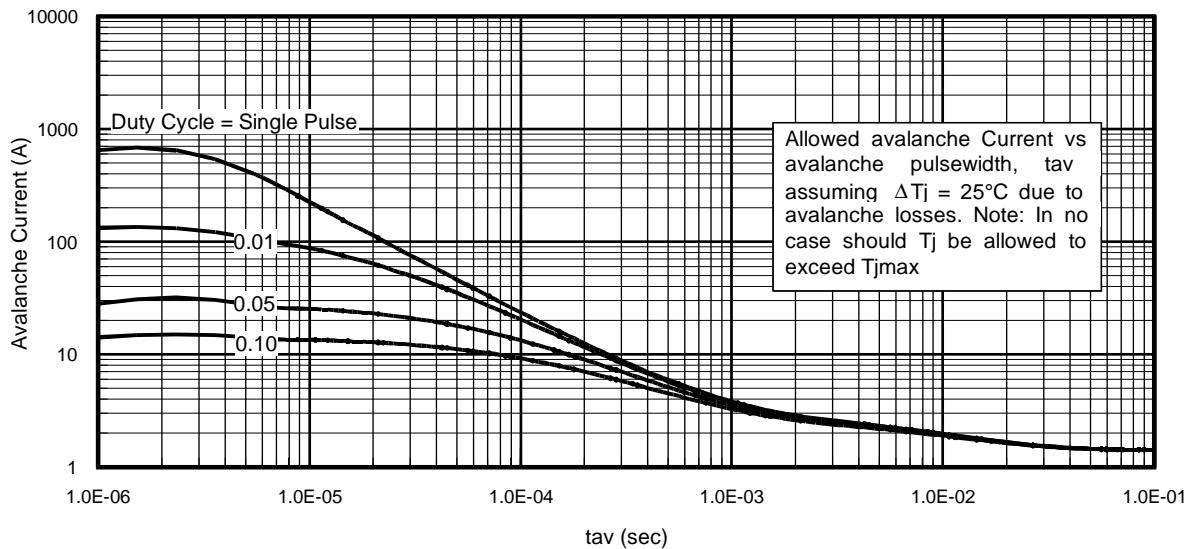

**Fig 11.** Maximum Effective Transient Thermal Impedance, Junction-to-Case
- ① Repetitive rating; pulse width limited by max. junction temperature. (See fig. 11).
- ② Limited by  $T_{J\text{max}}$ , starting  $T_J = 25^\circ\text{C}$ ,  $L = 0.12\text{mH}$  ⑤  $R_G = 25\Omega$ ,  $I_{AS} = 95\text{A}$ ,  $V_{GS} = 10V$ . Part not recommended for use above this value.
- ③ Pulse width  $\leq 1.0\text{ms}$ ; duty cycle  $\leq 2\%$ .
- ④  $C_{oss \text{ eff.}}$  is a fixed capacitance that gives the same charging time as  $C_{oss}$  while  $V_{DS}$  is rising from 0 to 80%  $V_{DSS}$ .
$Z_{thJC}(D, t_{av})$  = Transient thermal resistance, see figure 11)